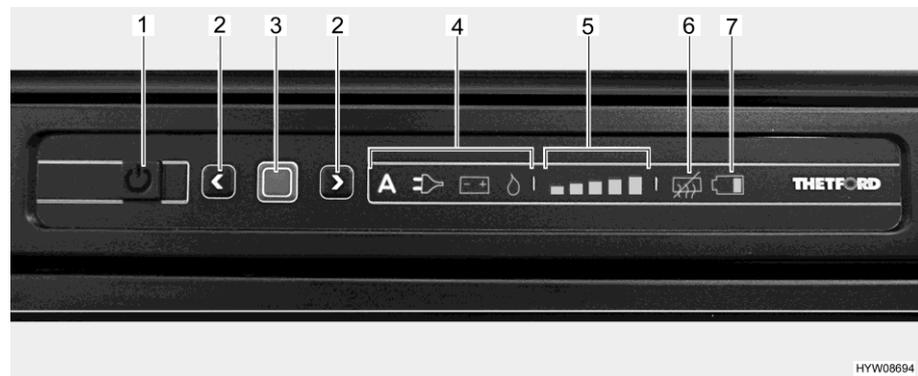

Fig. 122 LED operating panel (Thetford refrigerator)
- Press and hold the On/Off button (Fig. 122,1) for 1 second. The button lights up green. To save energy, after approximately 10 seconds the display is dimmed.
- Press confirmation button (Fig. 122,3). The operating mode previously selected is displayed.
- Press and hold the confirmation button (Fig. 122,3) for about 2 seconds. The operating mode symbols flash.
- Manual power selection: use the arrow keys (Fig. 122,2) to select the desired energy source.
- Automatic power selection (only version with automatic power selection): use the arrow keys (Fig. 122,2) to select the operating mode "A".
- Confirm your selection with the confirmation button (Fig. 122,3).
- Press confirmation button (Fig. 122,3) again. The cooling level indicator (Fig. 122,5) flashes.
- To change the setting, press the arrow keys (Fig. 122,2) until the desired setting is displayed.
- Press and hold the On/Off button (Fig. 122,1) for about 2 seconds. All lights go out. Refrigerator is switched off.
After switching it on, the refrigerator automatically selects the previously selected thermostat position. This position can be adjusted manually by using the arrow keys (Fig. 122,2). It takes a few hours till the refrigerator reaches its normal operating temperature. When changing over to another operating mode, the thermostat setting is kept.